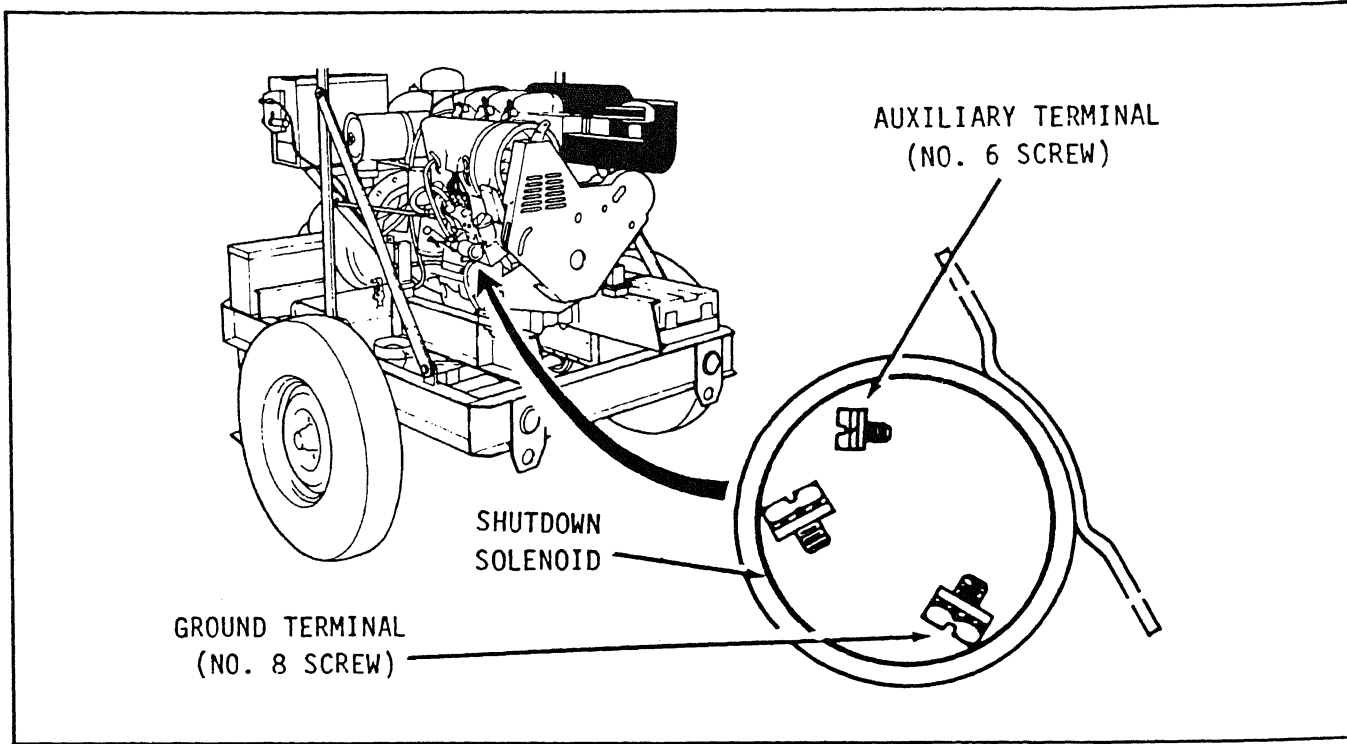

Figure 4-21. Shutdown Solenoid Test Terminals.
- (2) Connect a 12 volt test lamp to shutdown solenoid auxiliary terminal (figure 4-21) and ground terminal.